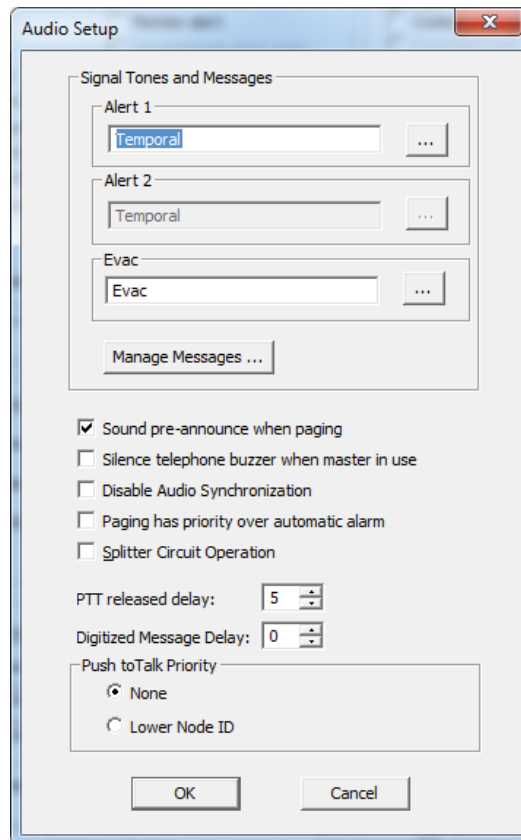

Figure 71 The Audio Setup window
1. In the **Audio Setup** window (Figure 71), click the ... button beside **Alert 1**, **Alert 2**, or **Evac**.